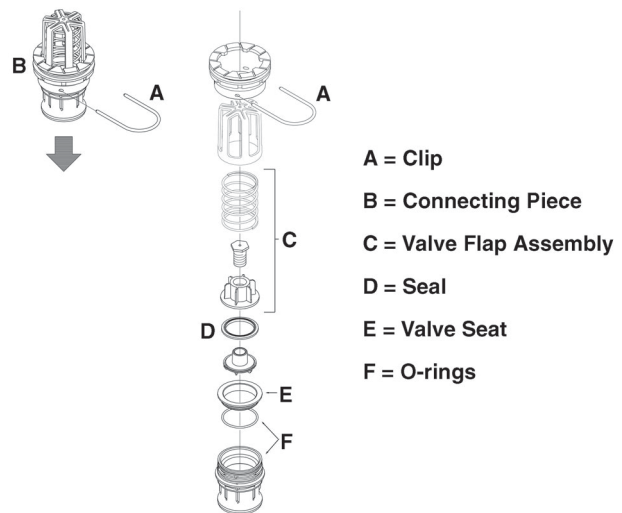

Fig 37
- 3 Pull out the clip (**A** Fig 37) and pull down the connecting piece (**B** Fig 37). The entire valve assembly can now be pulled out.
- 4 Check the cord and valve flap assembly (**C** Fig 37) for wear, replace the seal (**D** Fig 37) and reassemble.
- 5 Assemble the valve assembly again using a new valve seat (**E** Fig 37). Lubricate the O-rings (**F** Fig 37) before assembly.
- 6 Fit the clip (**A** Fig 37) again.